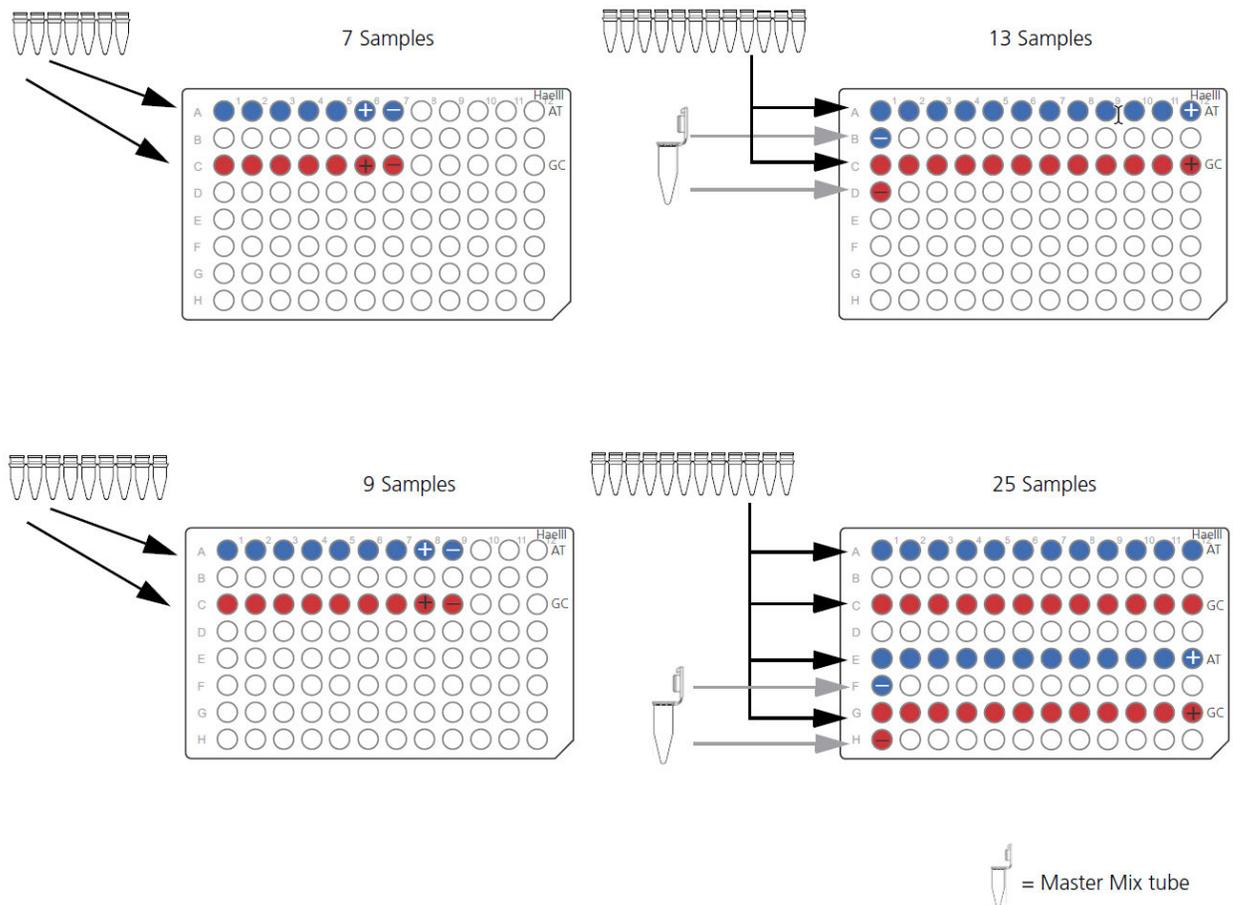

Figure 22 Adding the *HaeIII* Master Mix to the empty HAE Plate.
Use a multichannel P200 pipette to add 20.0 µL of the *HaeIII* Master Mix to each empty sample well of the **HAE Plate**. (Figure 22.)
**Note:** For the 13- or 25-sample protocol, use a single channel pipette to add 20.0 µL of the *HaeIII* Master Mix from the “HAE” microcentrifuge tube to the Negative Control wells. (Figure 22.)